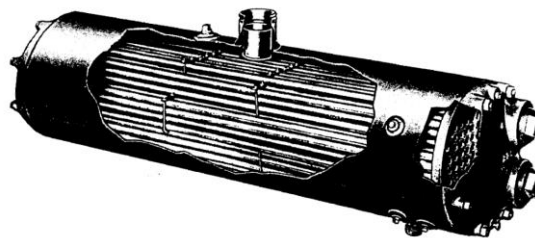
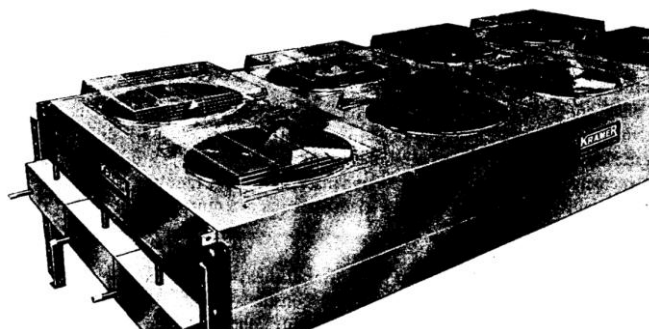

Fig. 1. Shell-and-tube heat exchangers
Fig. 2. Finned-coil heat exchangers
- The most widely used types of condensers and evaporators are shell-and-tube heat exchangers (Fig. 1) and finned-coil heat exchangers (Fig. 2).